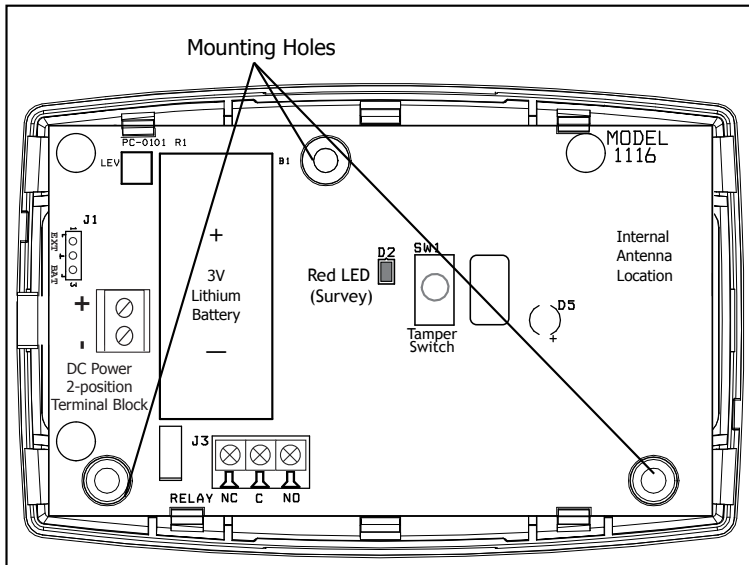

Figure 2: 1116 Relay Output PCB
The 1116 provides a survey capability to allow one person to confirm communication with the receiver while the cover is removed. The 1116 PCB Red Survey LED (See Figure 2) turns on whenever data is sent to the receiver then immediately turns off when the receiver acknowledgement is received. Pressing the tamper switch is a convenient way to send data to the receiver to confirm operation. When the 1116 does not receive an acknowledgement from the receiver the survey LED remains on for about 8 seconds to let you know communication is not established. Communication is also faulty when the LED flashes multiple times in quick succession. Relocate the 1116 or receiver until the LED immediately turns off indicating the 1116 and receiver are communicating properly. Proper communication between the 1116 and receiver is verified when for each press or release of the tamper switch, the LED blinks immediately on and immediately off. Repeat this test to confirm five separate consecutive LED blinks. Any indication otherwise means proper communication has not been established.
Locate the 1116 on a flat surface such as a wall or single-gang box. When using the optional Model 376L plug-in power supply, mount the 1116 near a wall outlet. See Figure 2 for mounting hole locations.
4. Place the 3V Lithium battery in the holder and press into place. See Figure 2 for Battery location.